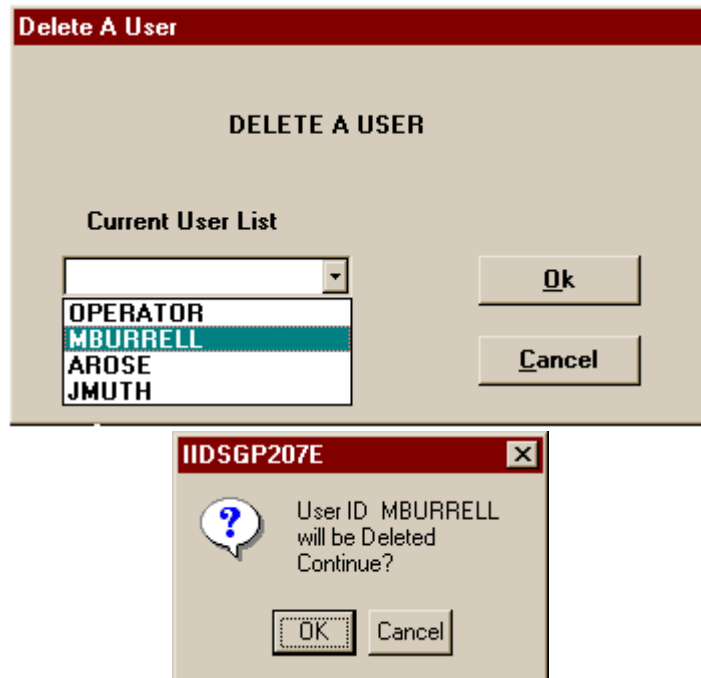

Figure 12. Delete User Screen
3. Use TAB key (or mouse) to select User ID field (refer to Figure 12).